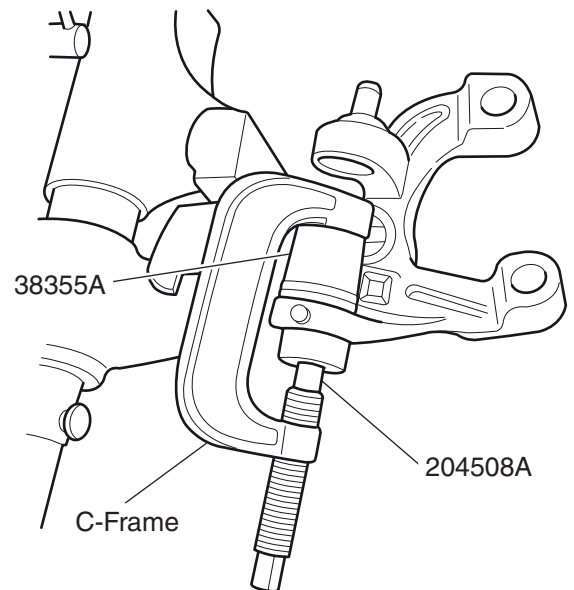

Figure 2. Ball Joint Installation
3. Position 204508A and 38355A on the ball joint as shown in Figure 2.